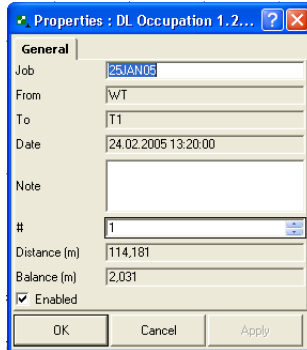

Figure 5-96. General Properties
2. View or edit *General* tab fields. Edit the name, order and note of the job, as needed (Figure 5-96 on page 5-63).
2. View or edit *General* tab fields (Figure 5-96). Edit the *Start Point* and *End Point* parameters as needed.